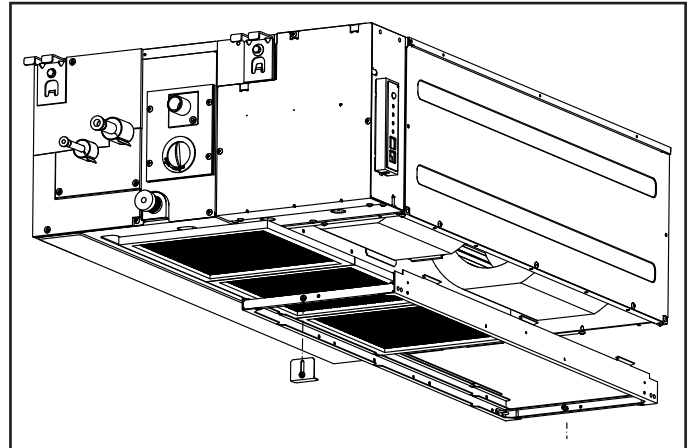

Figure 12. Re-install Filter Frame and Return Air Cover Plate
5. Use the existing screws to re-install the return air filter frame on the bottom of the unit. See Figure 12.